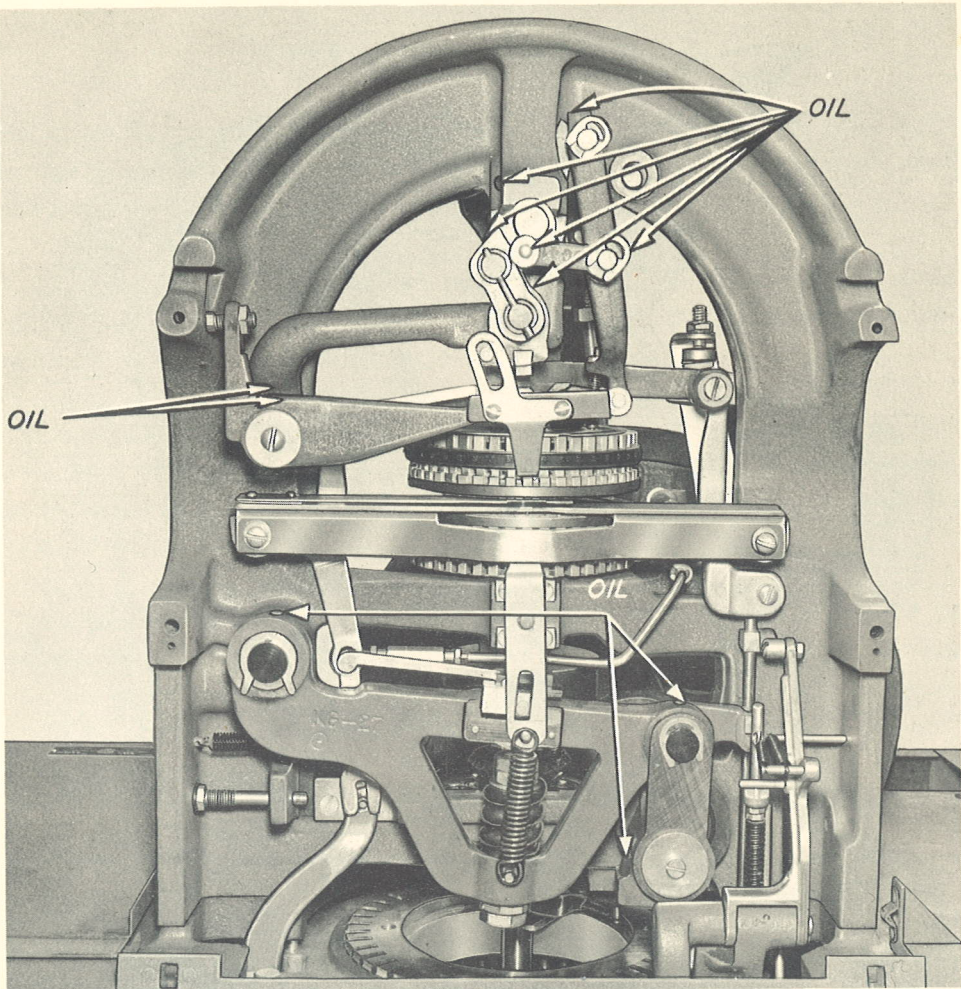

Figure 16
**NOTE:** Never attempt to lubricate when a machine is in operation. **ALWAYS TURN OFF THE SWITCH.** Do not apply oil in the slots in which the dies and punches operate, nor to the dies and punches. If oil lodges in the face of a die or punch, the character will not emboss to a full and distinct formation, and will result in indistinct impressions from the plate. After each eight hours of use, apply a few drops of Duro-Vis oil to the points of lubrication, as indicated in Figures 16 and 17. An oil cup 17B is provided at the top of each main bearing. Fill these oil cups (one on each bearing) with Duro-Vis once a week.